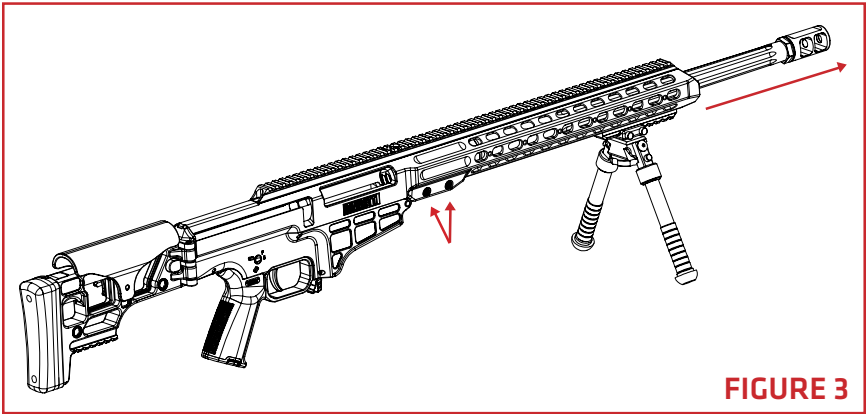

FIGURE 3
2. Loosen the two barrel screws using a T-30 Torx wrench and remove the barrel from the upper receiver (**FIGURE 3**).